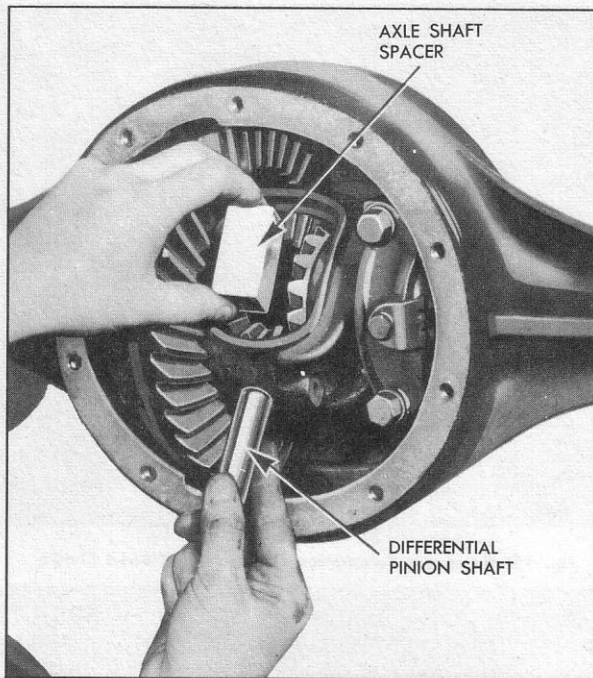

Fig. 10—Removing Axle Shaft Spacer
6. Remove the differential pinion shaft lock screw, the differential pinion shaft, axle shaft spacer and differential pinions (fig. 10).